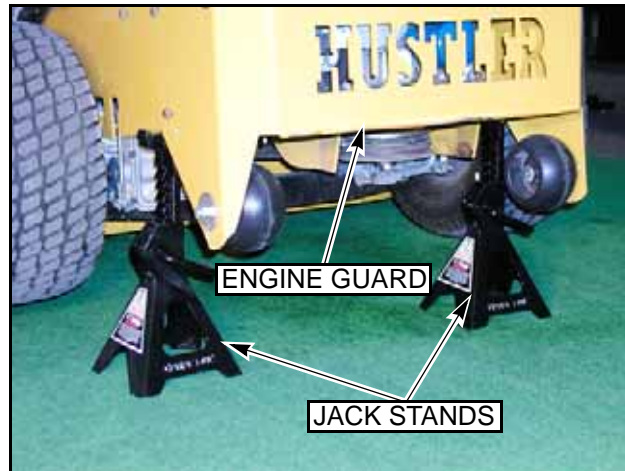

FIG. 5
1. Raise and block the mower up so the drive wheels are off of the floor. FIG. 5